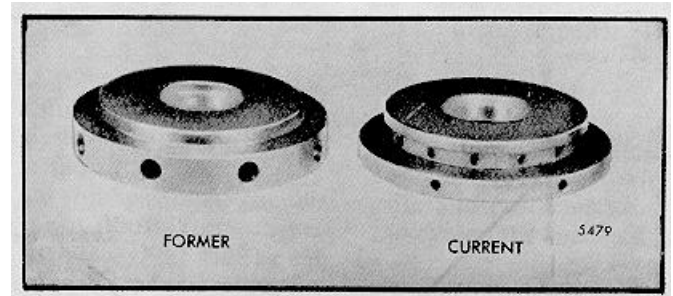

FIG. 10 - Former and Current Thrust Collar (T18A40 Turbocharger)
4. Install a new piston ring(s) (17) on the thrust spacer (16) and gently insert the spacer into the backplate assembly (14).
NOTE: With the T18A40 turbocharger, make sure the *current* small diameter thrust spacer (.672 "-.673 ") is used with the current thrust collar (Fig. 10). The former spacer was .677"-.678 " in diameter. The current thrust spacer (16) has two grooves. When replacing the former one groove spacer with the two groove spacer, be sure and include two piston rings.